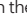

Fig. 146 Centre console, lower part: electronic parking brake button.
- Pull and hold the  **Fig. 146** button.
- Press the button  **Fig. 146**. At the same time step hard on the brake pedal or, if the engine is running, press the accelerator pedal slightly.